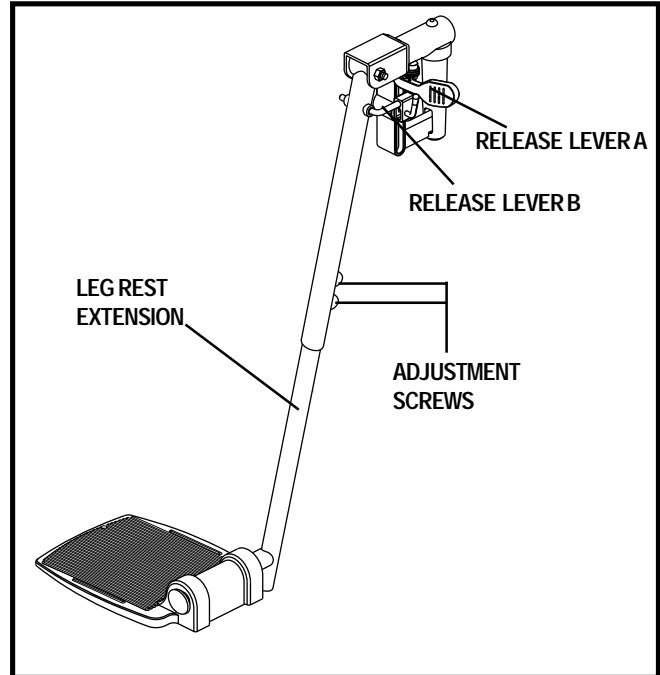

Figure 20. Elevating Leg Rests
1. Push down release lever B. See figure 20.
1. Push in release lever A. See figure 20.
1. Remove the two screws from the side of each leg rest extension. See figure 20.